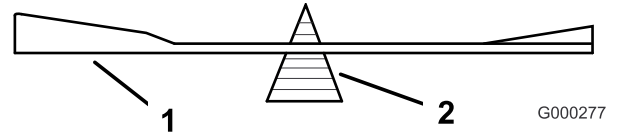

Figure 103
2. Check the balance of the blade by putting it on a blade balancer (Figure 103). If the blade stays in a horizontal